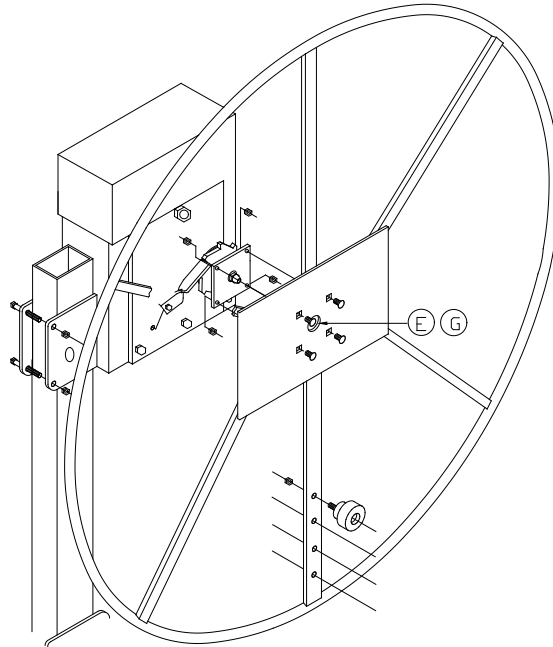

Figure 3-1
3. Remove the handwheel by removing the 1/2" locknut (3/4" socket) and washer that is fastened to the winch input shaft, located in the center of the handwheel. Refer to Figure 3-1.